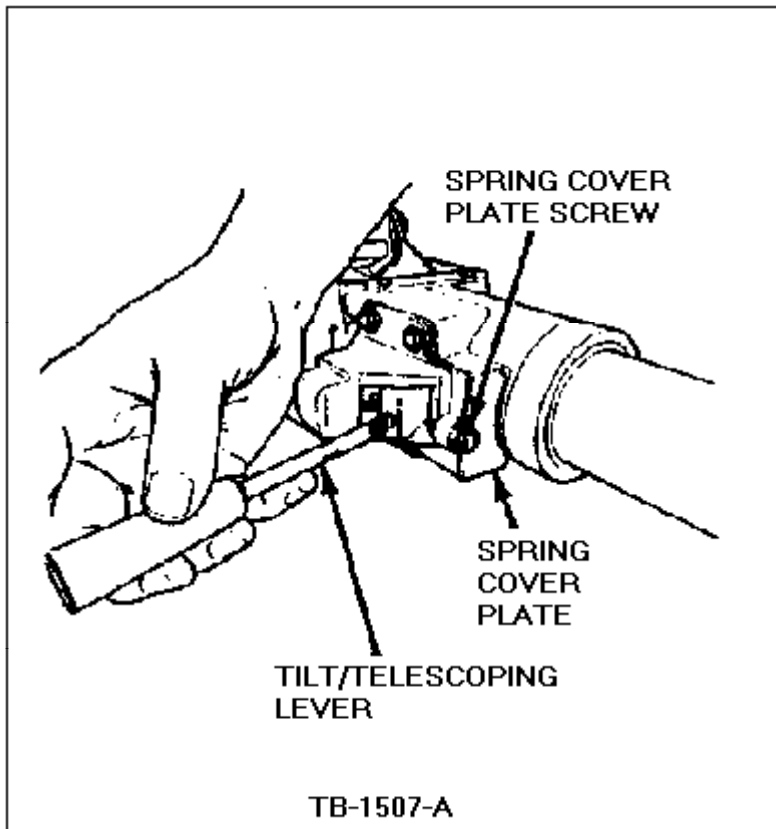

Figure 40 - Article 90-5-10
46. Apply Loctite Threadlocker 242 on the threads of the tilt and telescoping lever, Figure 40.
47. Install the tilt and telescoping lever into the actuator housing, Figure 40.